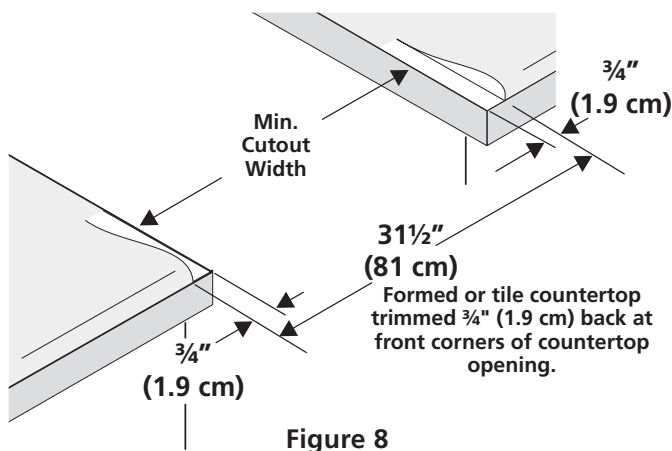

Figure 8
- **Formed front-edged countertops** must have molded edge shaved flat  $\frac{3}{4}$ " (1.9 cm) from each front corner of opening (Figure 8).
- **Tile countertops** may need trim cut back  $\frac{3}{4}$ " (1.9 cm) from each front corner and/or rounded edge flattened (Figure 8).